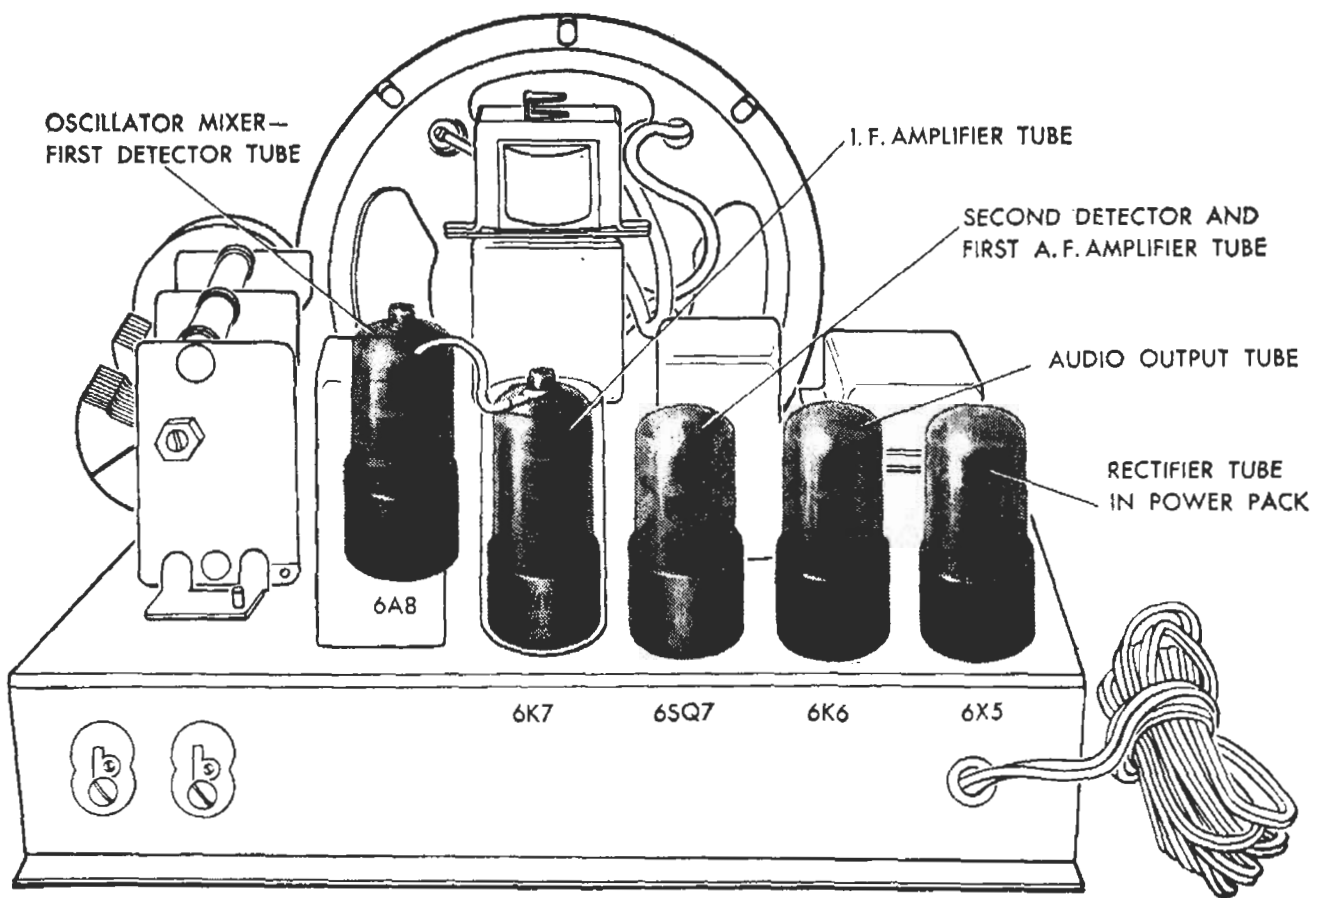

FIG. 9. This is the back of our superheterodyne receiver chassis showing the tubes.
**Socket Markings.** The number of the tube intended for each socket has been clearly printed on the chassis base of our receiver, as indicated in Fig. 9.